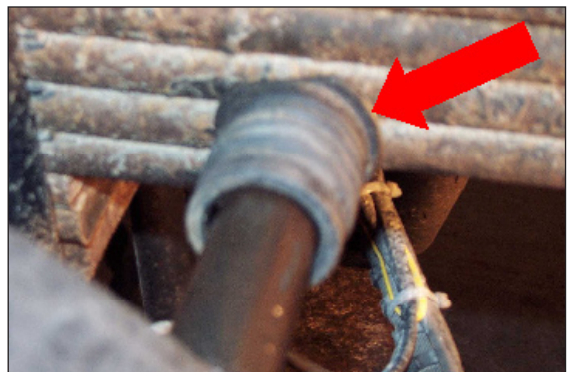

Figure 32. Example of Rear Axle Upper Anchor Plate Trailing Pin That Cannot Be Removed
- On some rear axle applications, the upper anchor plate trailing pin cannot be removed without removal of the anchor plate, as shown in *Figure 32*. Reference pages 37 and 38, steps 11.1 to 11.8 for repair instructions.
- On some rear axle applications, the upper caliper anchor plate trailing pin cannot be removed without removal of the anchor plate, as shown in Figure 32.